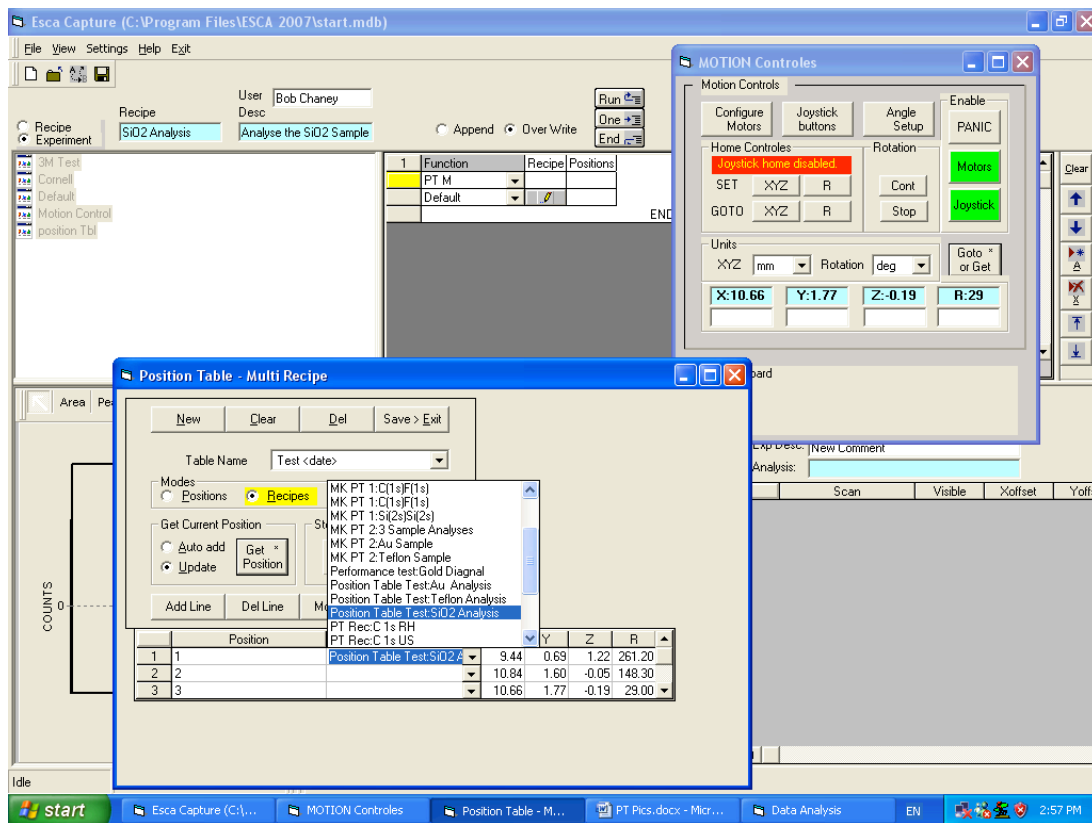

Figure 11. Use the pull-down arrows to select the MRS recipe to be associated with a particular position.
- 3.0 Click on the *Recipes* column of the expanded *Position Table-Multi Recipe* dialog and insert the MRS selections created in section 1 using the pull-down arrows (Fig. 11).